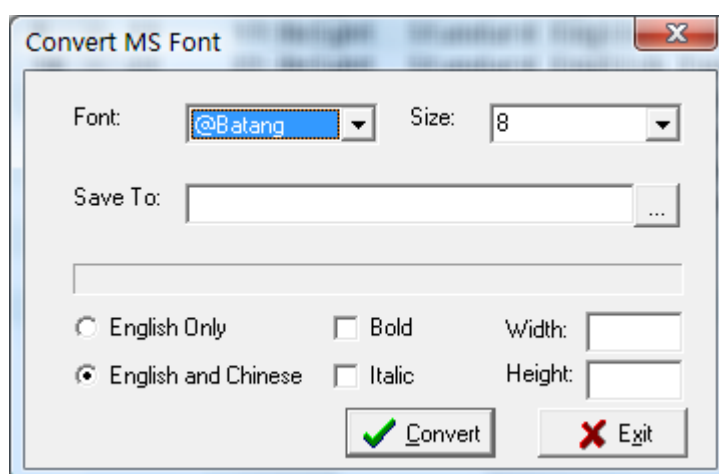

Fig 4.7 Font Style
**Font Style:** It is the tool to examine a certain font style in the font list. Fig 4.7 discloses the way.
Suppose we want to switch to Arial Font 16. We will open the font conversion dialogue as shown in Fig 4.7. We select a font and size, and then a path to save the file. Then we